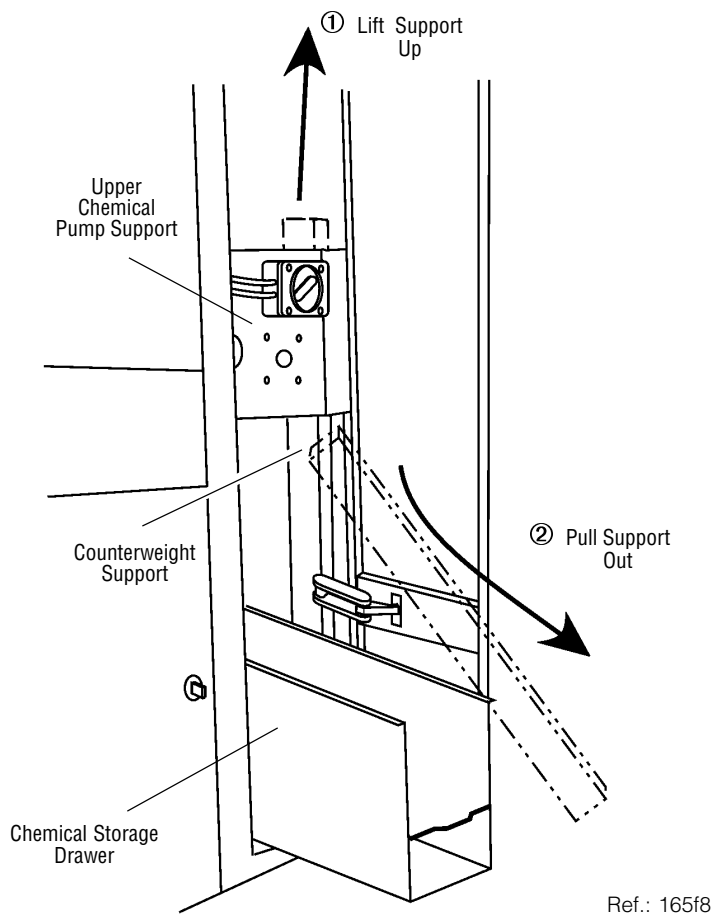

Figure 2-18. Remove Counterweight Support
- h. From the chemical storage compartment, lift support up until bottom of support clears the chemical storage drawer (see Figure 2-18).
NOTE: In order for the bottom of support to clear the storage drawer, top of counterweight support must be lifted through the opening between counterweight box and chemical pump support, visible from area under control service panel (see Figure 2-18).